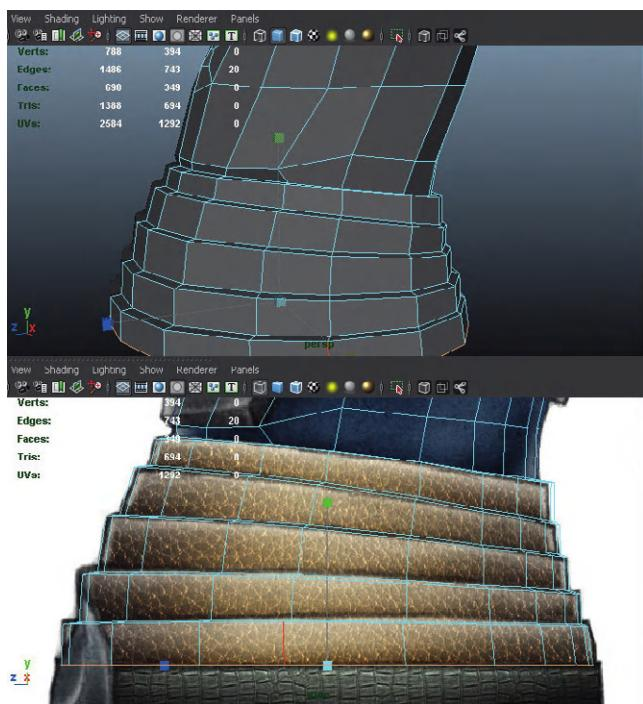

FIG 4.54 Creating the belly.
Step 72: Extrude down to create the belly region. This is done with a series of extrusions – all by extruding the bottom ring of edges. Do note that some of the extrusions will slide down the form, and some will need to go straight out to create the stepped surface in the design (Fig. 4.54).